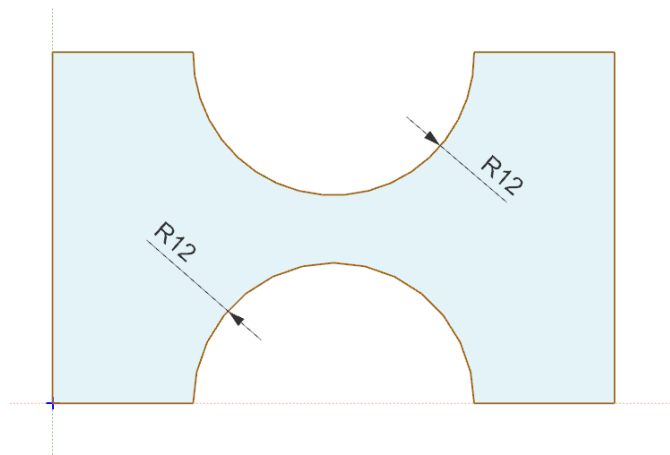

Figure 2-80 Final sketch for Tutorial 3
15. Press the Esc key to exit the **Line** tool. The final sketch of the model is shown in Figure 2-80.